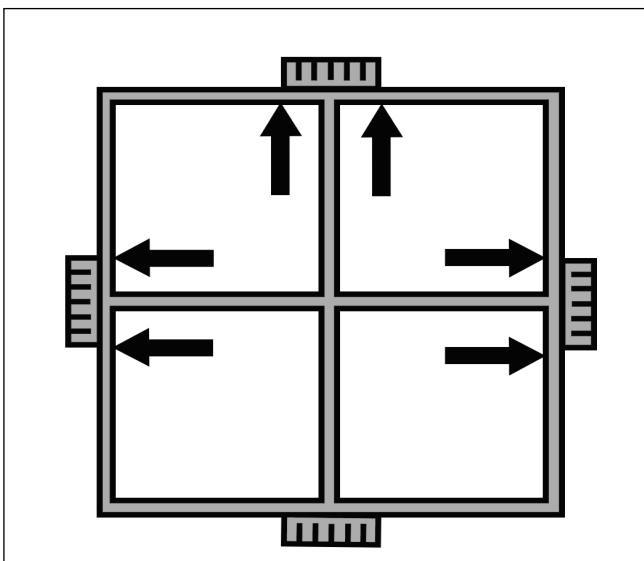
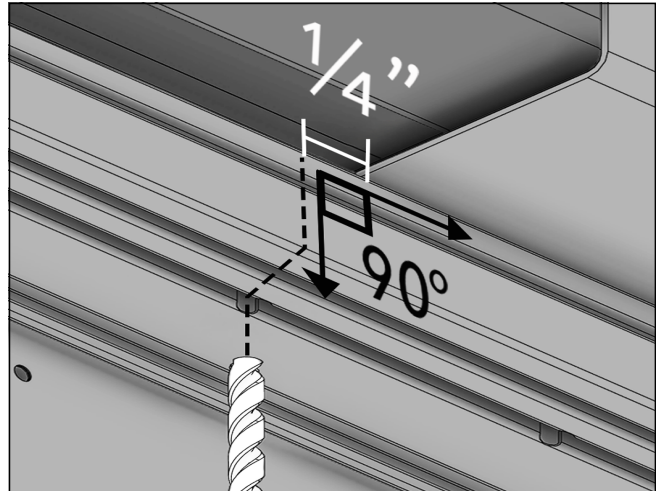

Figure 93
Figure 94 Casement
1. Additional screws are needed at all head jamb and jamb gussets, full or split. **DO NOT DRILL THROUGH THE SILL.** Remove the covers needed to access the base frame next to any head jamb or jamb gusset. For factory assembled mulls with Direct Glaze Units, the interior mull cover may need to be removed before the screw covers. See Figure 93
2. Once the interior cover(s) are removed, measure 1/4" off the edges of the gusset. See Figure 94 and Figure 93.